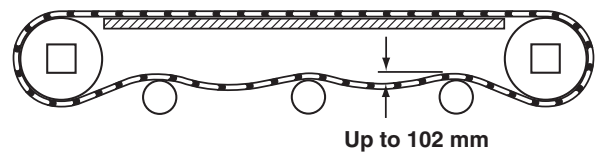

Figure 44
4. Check belt sag by measuring from the top of the return (Figure 44). Belt sag should not exceed 102 mm. Follow steps 7 – 9 in the “Belt Installation” section on page 13 to remove slack from the belt.